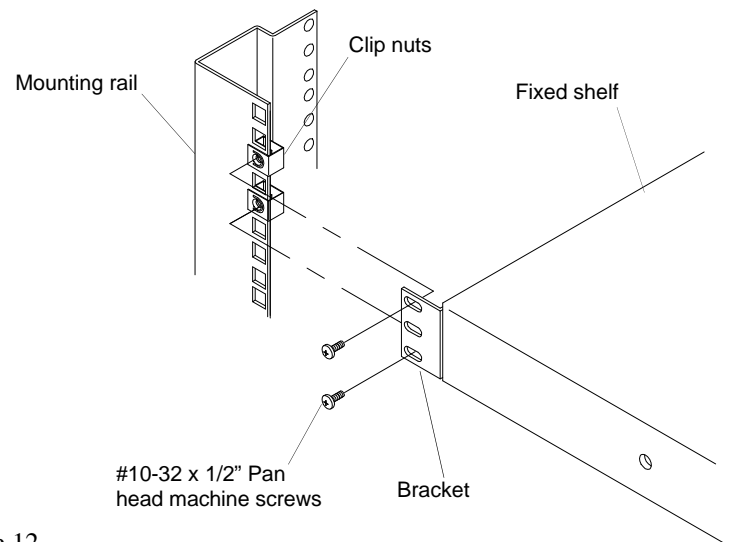

Figure 11
2. Position the **Fixed Shelf** with the four brackets on the correct side of the clip nuts. See figure 11.
3. Attach the front brackets to the rails with the screws provided and tighten. See figures 11.